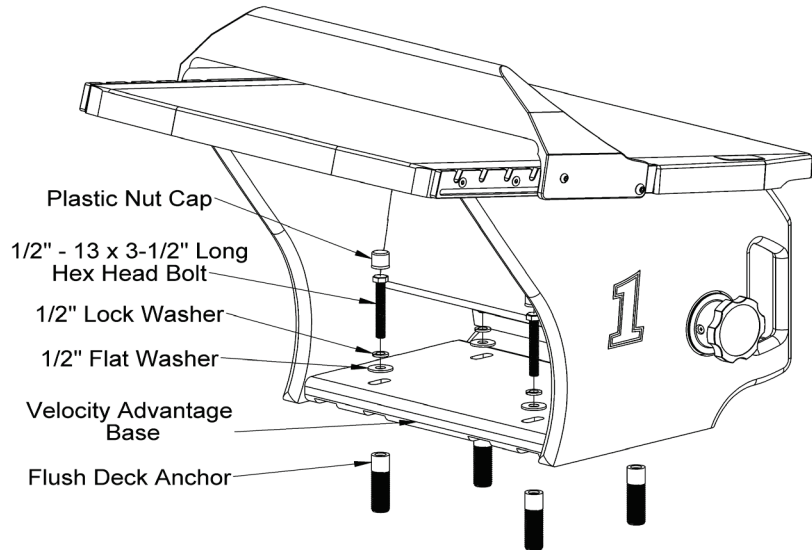

Figure 6 | Mounting Hardware
2. Fasten the Velocity Advantage to the anchors as shown in Figure 6. **Use a 3/4" socket or wrench** to tighten the bolts until the lock washers are fully compressed.